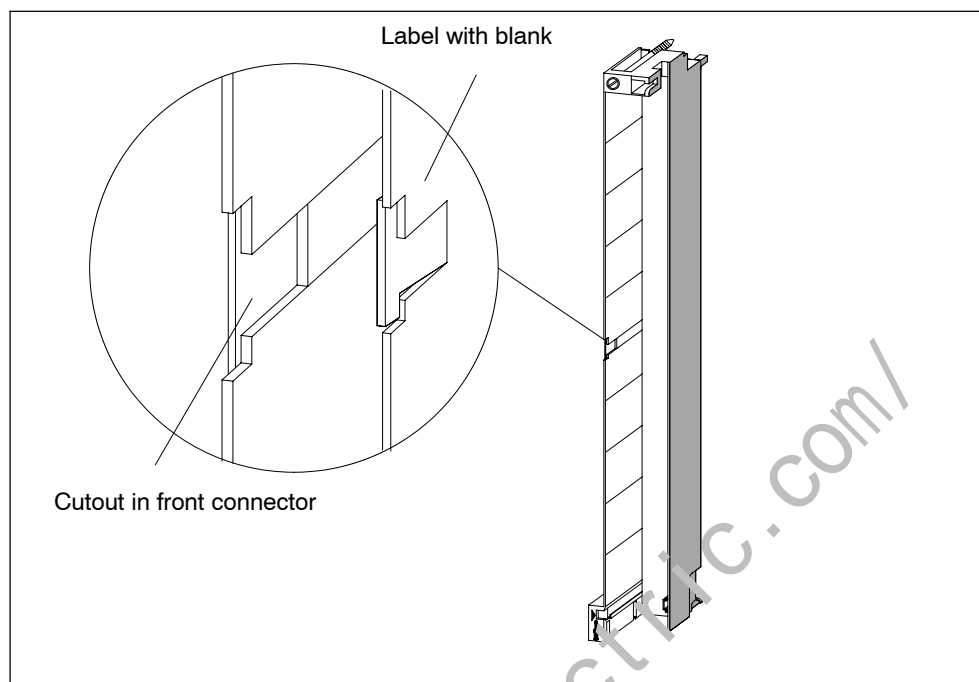

Figure 4-19 Fitting a Label in the Front Connector.
2. Place a label on the left of the opened front connector. The label has a T-shaped blank in the middle with which you can fix the label onto the front connector housing. Bend the blank slightly to one side and push it behind the corresponding cutout of the front connector whilst sliding in the label (see Figure 4-19).
Figure 4-19 shows details for fitting a label in the front connector.